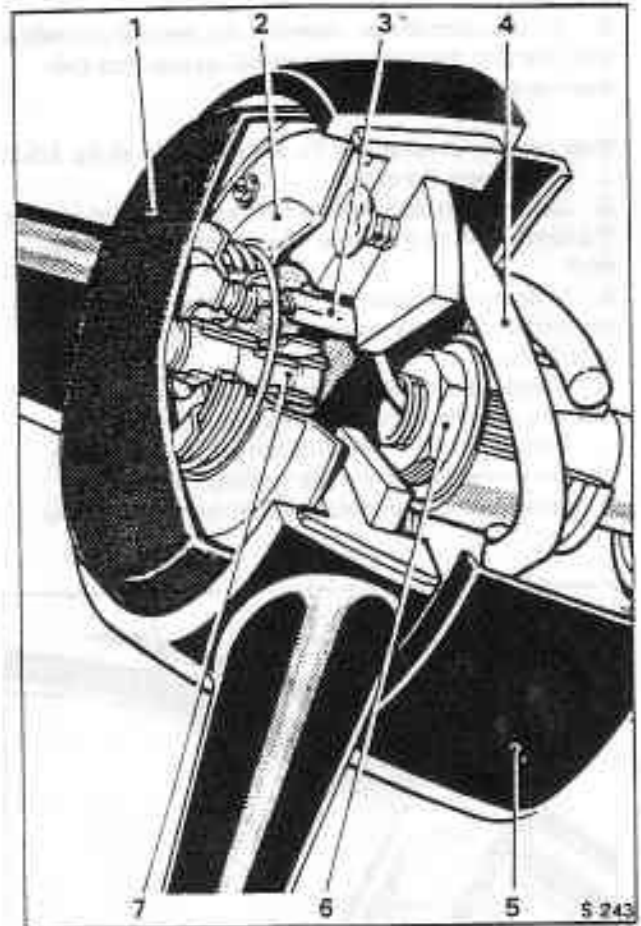

Fig. N3-1 Steering wheel components
**Steering wheel – To remove (refer to fig. N3-1)**